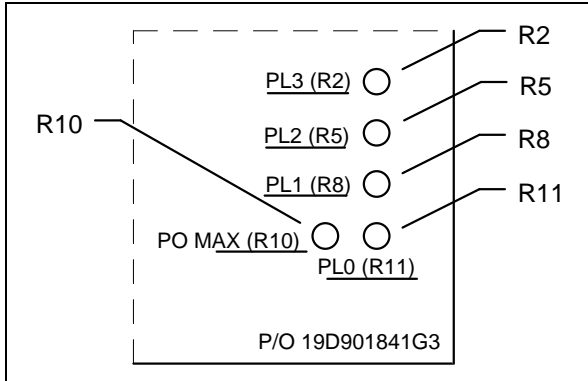

Figure 19 - Power Amplifier Adjustment Locations
2. Connect a RF Directional Wattmeter (item 18) between the PA output and the TX Combiner. Put the Wattmeter into FORWARD mode. Attach a 150 watt RF load (item 21) onto the output of the TX Combiner.
6. Using a non-inductive tuning tool, adjust R11 on the PA Assembly for 100 ± 5 watts output power (see Figure 19). Record the final output power.